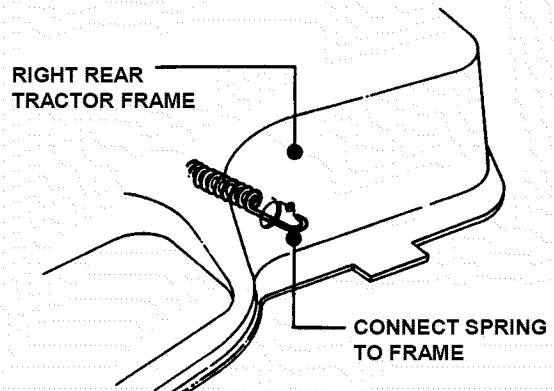

FIGURE 4.37
5. Attach tension idler spring to tractor frame. See Figure 4.37.